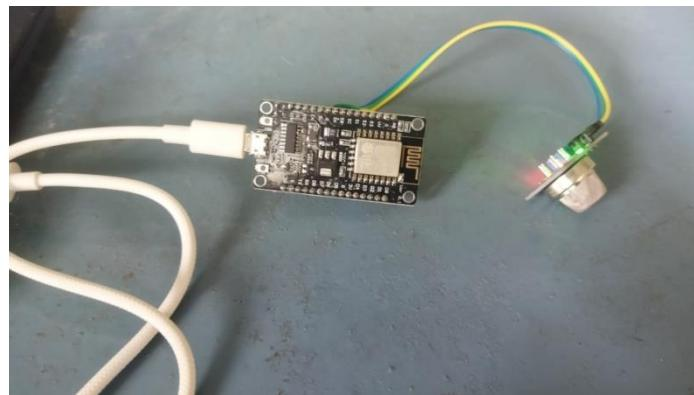

Fig 3.5
- After the circuit is assembled like in fig 3.5, code should be uploaded.